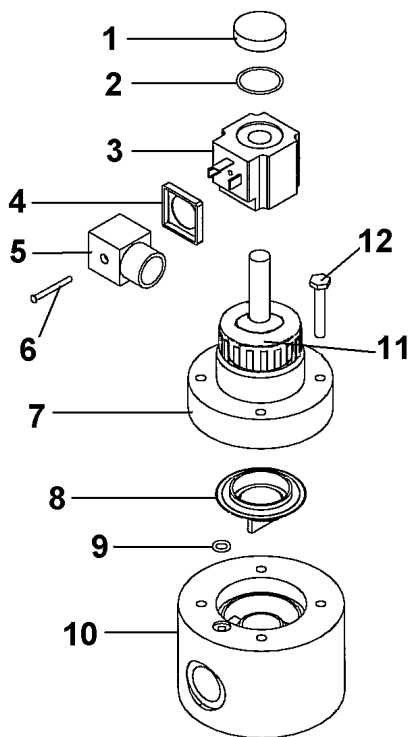

Figure 2. Solenoid Valve Assembly.
2. Remove cap nut (1), o-ring (2) and screw (6). See Figure 2.